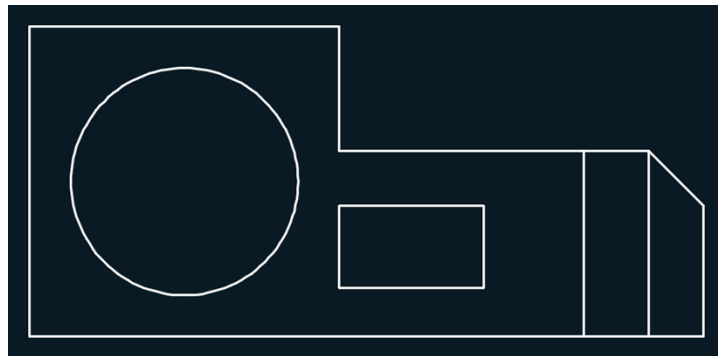

FIGURE 3.17 Completed mechanical part
8. Type **@1',-6** (or **@280,-160** for metric), and press Enter. The rectangle and drawing is complete (see Figure 3.17).